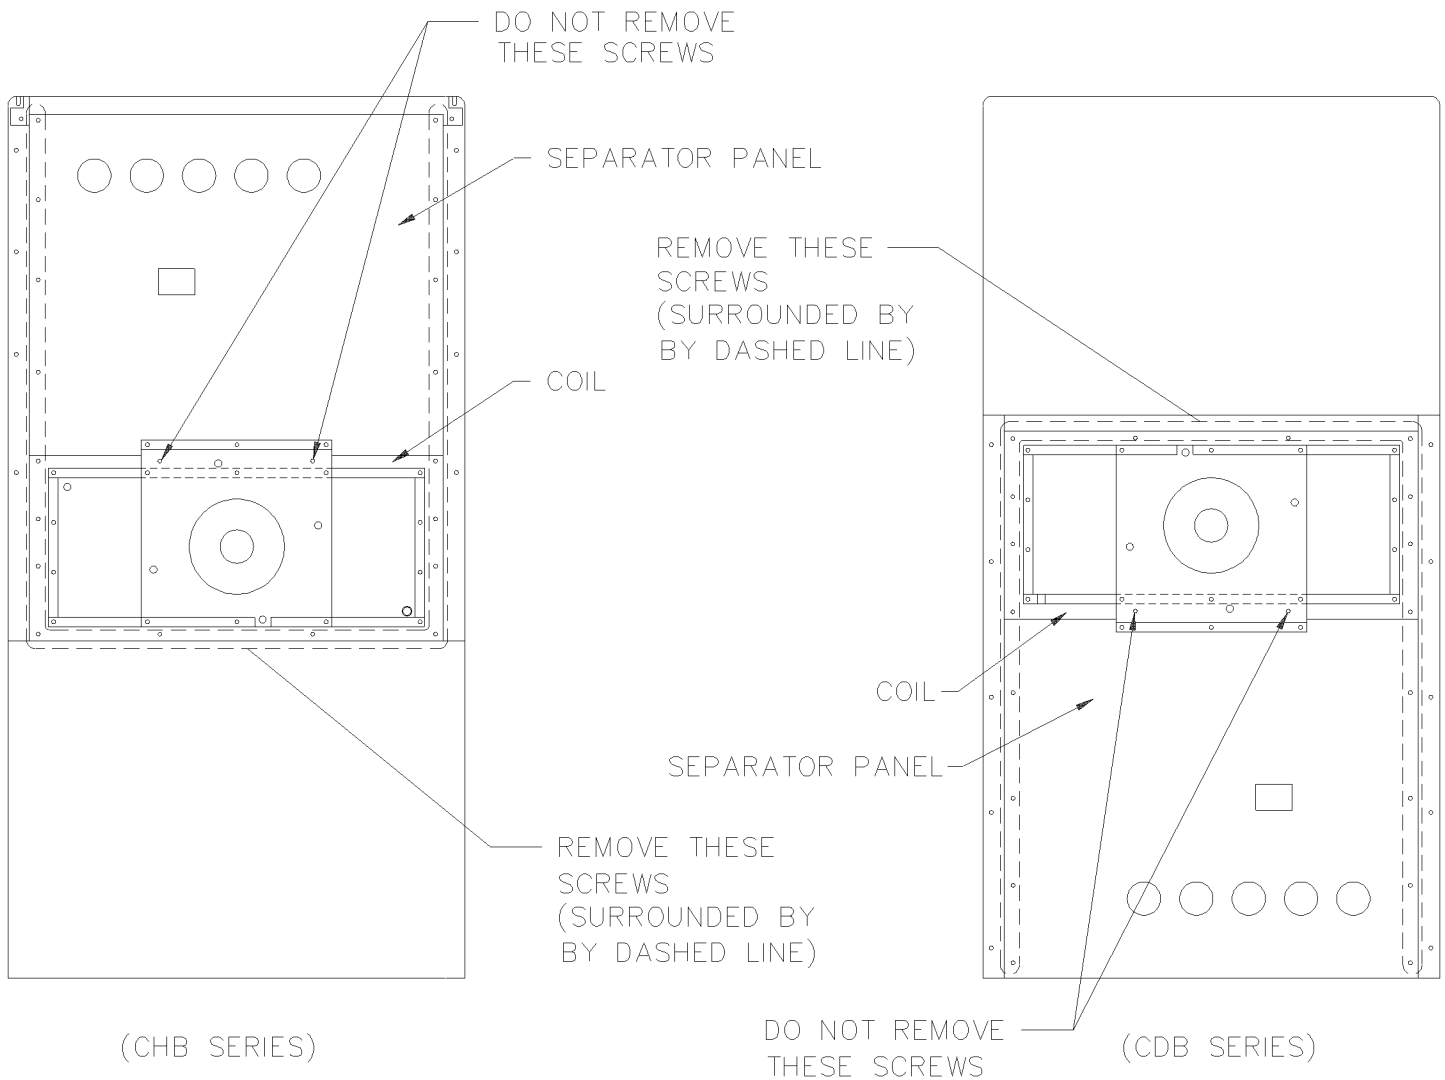

Figure 27
b. After removing all the components and the heat exchanger retainer screw (on CDB's) the inner row of screws holding the heat exchanger can now be removed (Notice the primary and secondary heat exchangers are connected and the two center screws between the separator plate and coil must not be removed (see Figure 27).